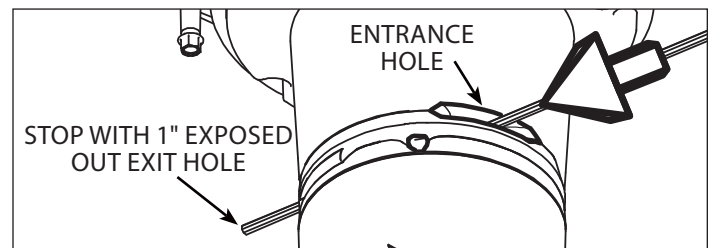

FIGURE 16: Insert new mower line into entrance hole
3. Push one end of the new mower line through the insertion hole in the head. **SEE FIGURE 16**